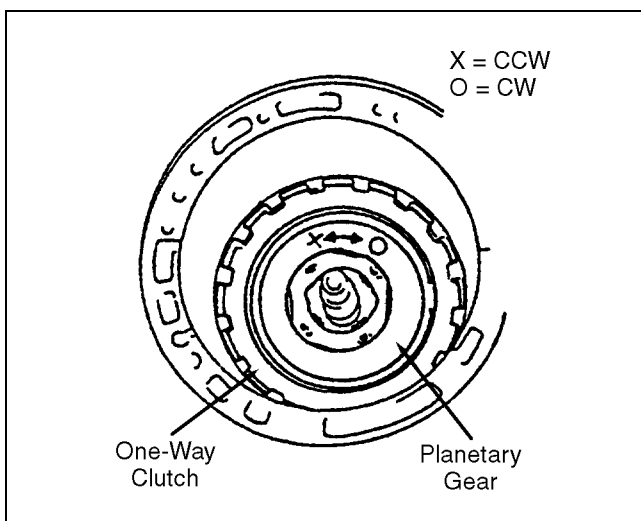

Figure 4J-28. Installation ó Step 5
- Attach the sun gear and sun gear drum as shown in Figure 4J-29. Use recommended grease to prevent the thrust washers from falling off when installing them. The thrust washer tabs should be matched up with the holes in the sun gear drum.